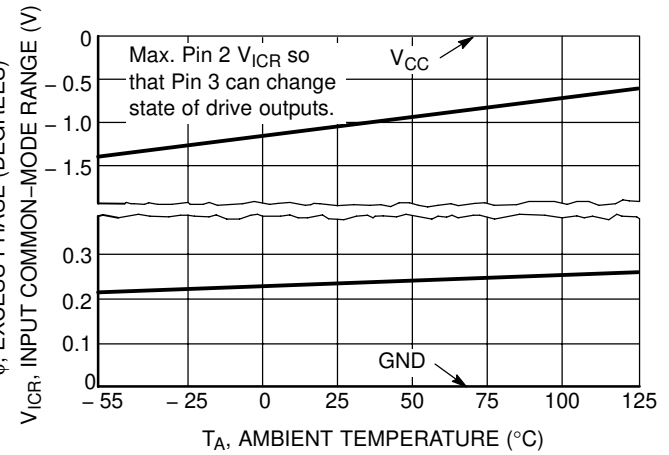

Figure 4. Window Detector Reference-Input Common-Mode Voltage Range versus Temperature
- The upper or lower hysteresis will be lost when operating the Input, Pin 3, close to the respective rail. Refer to Figure 4.
It must be remembered that points  $V_1$  through  $V_4$  always try to follow and center about the reference voltage setting if it is within the input common-mode voltage range of Pin 3; Figures 4 and 5. Initially consider that the feedback input voltage level is somewhere on the dashed line between  $V_2$  and  $V_4$  in [1]. This is within the dead zone range as defined above and the motor will be off. Now if the reference voltage is raised so that  $V_{Pin\ 3}$  is less than  $V_4$ , comparator B will turn-on [3] enabling  $\bar{Q}$  Drive, causing Drive Output A to sink and B to source motor current [8]. The actuator will move in Direction B until  $V_{Pin\ 3}$  becomes greater than  $V_1$ . Comparator B will turn-off, activating the brake enable [4]